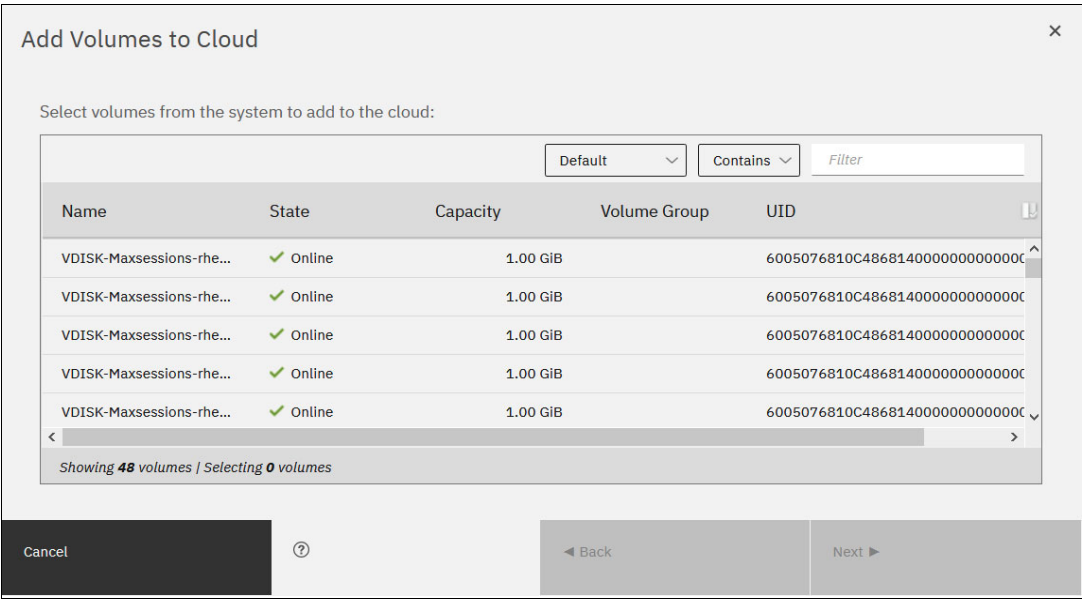

Figure 10-72 Adding volumes to Cloud Tiering
3. Click **Add Volumes** to enable cloud-snapshot on volumes. A new window opens, as shown in Figure 10-72. Select the volumes that you want to enable Cloud Tiering for and click **Next**.